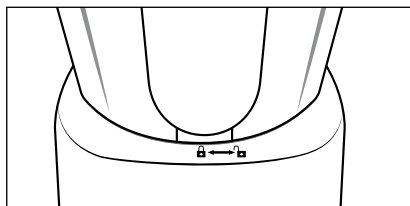

Fig. 3
7) Place the filled and closed blender **3** on the motor unit **6**. To do this, use the recesses on the motor block **6** and make sure that the handle of the blender **3** is pointing to the  symbol. Turn the blender **3** clockwise to towards the position  (see Fig. 3) until it audibly engages. The motor cannot start until the blender **3** is fitted flush to the motor block.